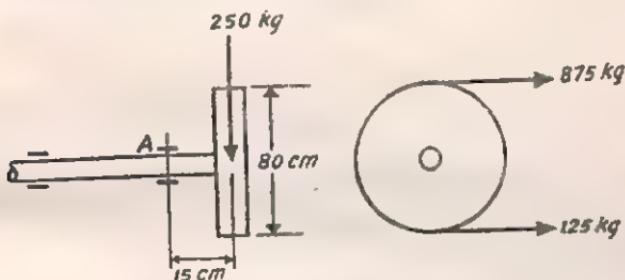

Fig. 10
25. A 6 cm diameter shaft supported in bearings carries an 80 cm diameter pulley weighing 250 kg at an overhanging end of the shaft as shown in Fig. 10. Calculate the principal tensile stress at the section A if the horizontal belt tensions are as shown.